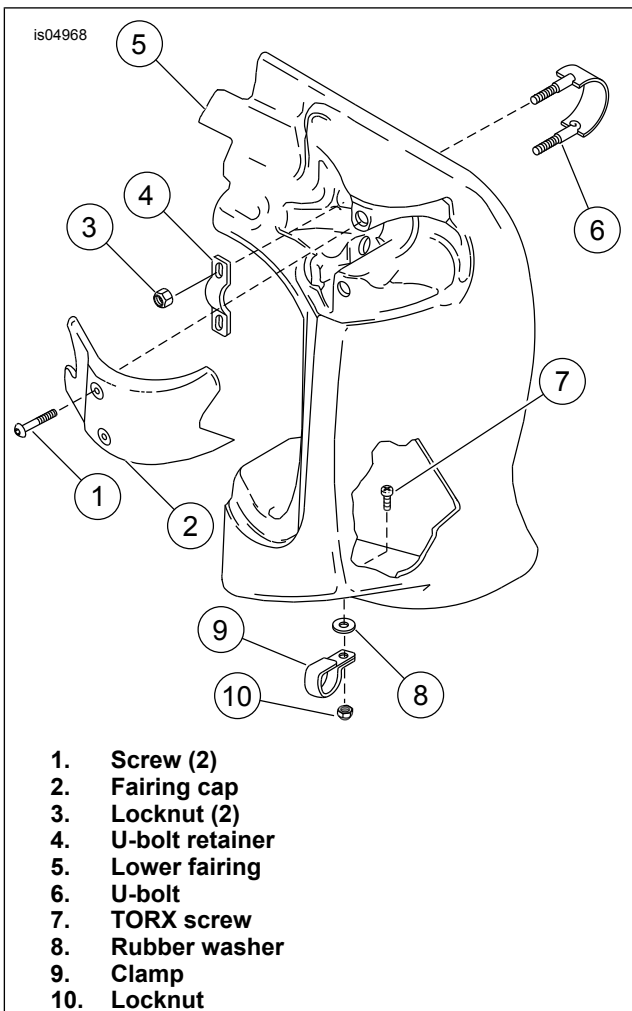

Figure 1. FLHR/I or FLHT/C/I Accessory Lower Fairing
1. See Figure 1. Remove the two screws (1) that attach the fairing cap (2) to the lower fairing (5). Remove the cap. Set the parts aside for installation.
2. Remove the screw (7), rubber washer (8), locknut (10) and the clamp (9) that attaches the bottom of the lower fairing to the engine guard and set aside.
3. Remove the two locknuts (3), U-bolt (6) and U-bolt retainer (4).
2. See Figure 1. Install the lower fairing to the top of the new engine guard with the U-bolt (6) from the back, through the holes at the top of the fairing. Install the retainer (4) in position on the U-bolt and secure to the engine guard with the two locknuts (3). Do not tighten the locknuts at this time.
3. Attach the bottom of the fairing to the engine guard with the clamp (9) removed earlier. Install the clamp around the engine guard in the direction shown, with the tabs toward the rear of the vehicle and the flat side of the clamp against the lower fairing. Insert the screw (7) through the lower fairing, rubber washer (8) and clamp (9). Secure the assembly with the locknut (10). Tighten to 16.3 N·m (12 ft-lbs).
4. Tighten the locknuts (3) to 8.1 N·m (6 ft-lbs).
5. Attach the fairing cap (2) to the fairing with the screws (1) removed earlier, and tighten securely.